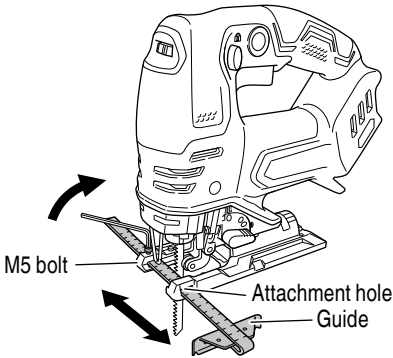

Fig. 26
- (3) Attach the guide by passing it through the attachment hole on the base and tighten the M5 bolt. (Fig. 26)